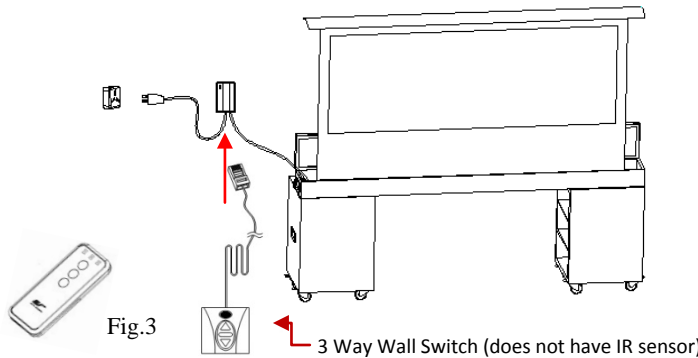

Fig.3
3. **3-Way Wall Switch (Item C, Fig 3):** The 3-way wall switch manually controls the screens up/stop/down button by connecting directly into the screen’s RJ-45 port.